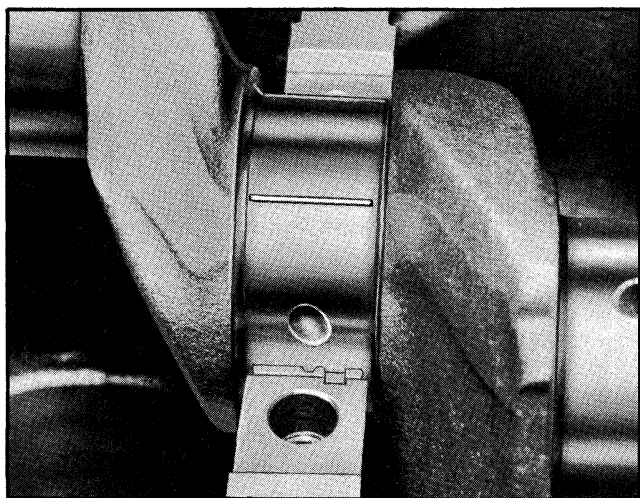

Fig. 6-58 Plastigage on Journal
3. Place a piece of Plastigage the length of the bearing (parallel to the crankshaft) on the journal or bearing surface (Fig. 6-58). Install the cap and tighten cap bolts to proper torque.